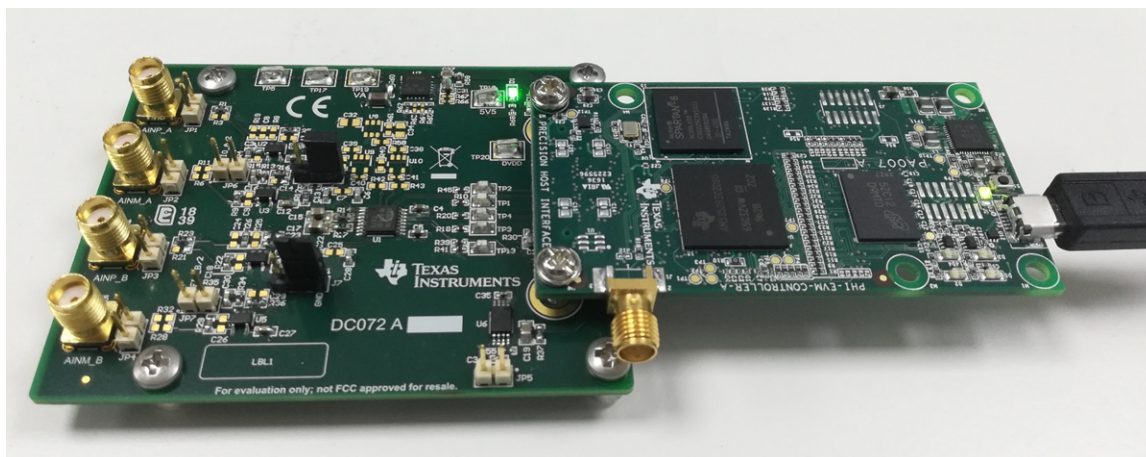

Figure 7. EVM-PDK Hardware Setup and LED Indicators
1. Connect the device EVM to the PHI board. Figure 7 indicates where two screws are to be installed.